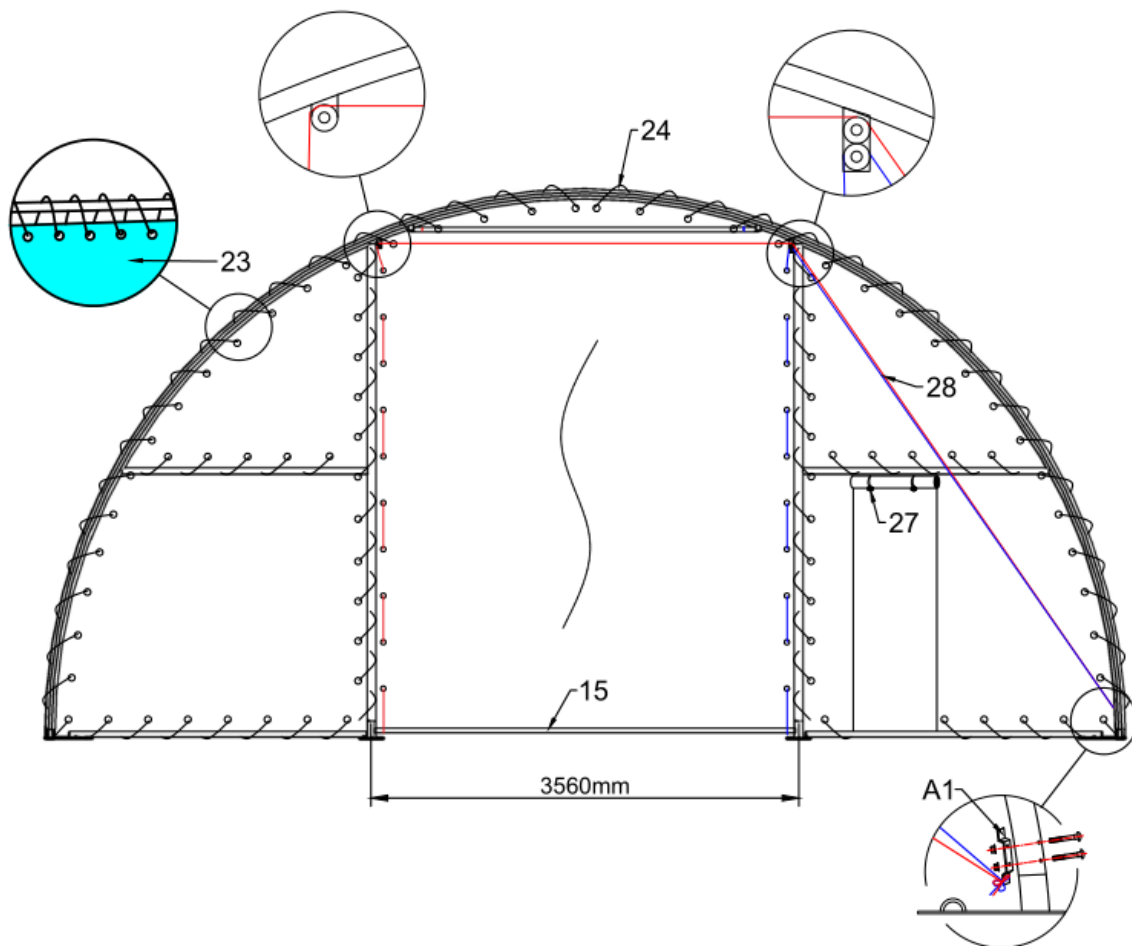

**Figure 6**
4. When finish installing the first two arches into the base plates, use purlins (No.4) to connect them by Bolt Carriage M10x90 (No.17). Then install the third arch into the base plate and connect the Purlins. In this turn, fix all other arches and other purlins. Then come to install the front panel and back panel. Find the relative components and assemble them. The horizontal Strengthening Support Tube (No.4A) under the roof bent tube is used for making the frame be much stronger. Please check the figure 6 and 7 for reference.